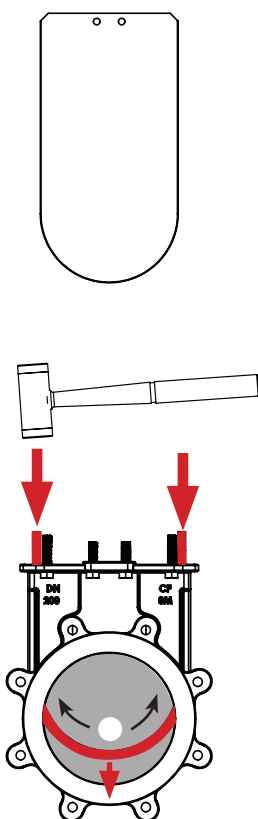

Figure 6
24.7.5 Lubricate and place seat back into body by bending it into a horseshoe shape. (Figure 6) Use a round bar to push seat firmly in place the ends will extend above the body on both sides evenly.